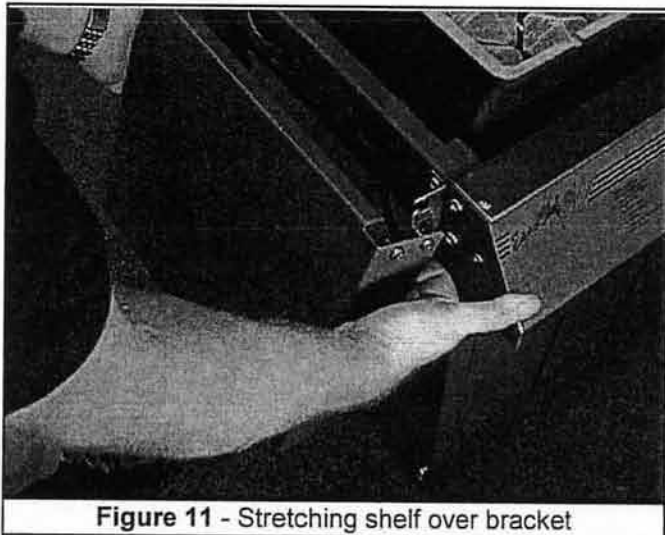

Figure 11 - Stretching shelf over bracket
- 1) Hold shelf in both hands and set lower stud into lower slot in bracket. Carefully stretch shelf over opposite stud (**Figure 11**).